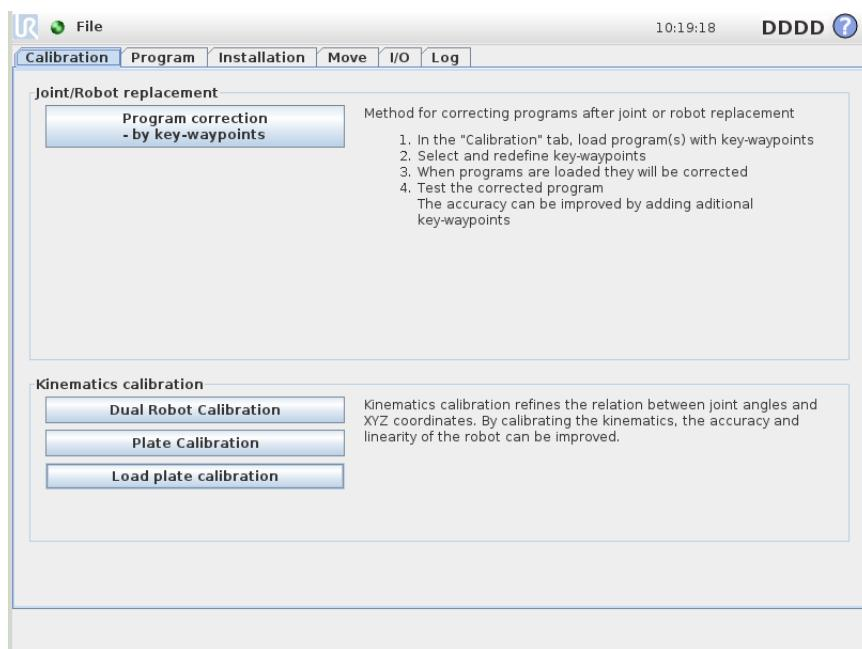

Figure 1.3: Select "Plate Calibration" to select this method.
- (2) This takes you to the Calibration screen. It also enables a new button called "Calibrate robot" on the "Welcome" screen, should you need to return to the Calibration screen at a later time. Clicking the "Kinematics Calibration" button again removes the new button from the "Welcome" screen.
- (3) The first tab on the next screen is called "Calibration". In this tab three cases can be chosen, see Figure 1.3: